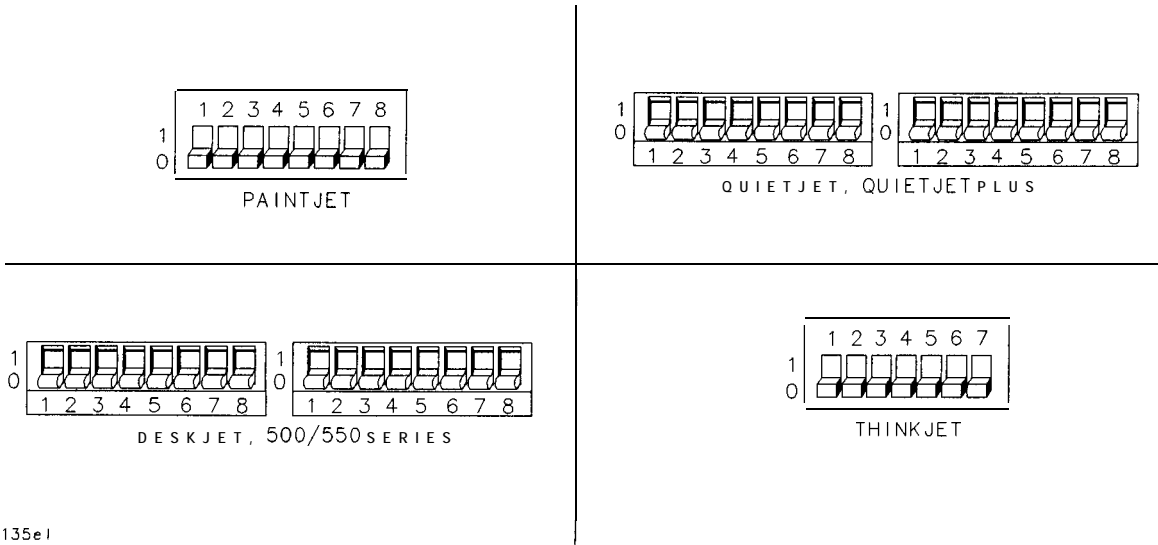

Figure 3 Parallel Printer Switch Settings
- 2 If your printer has configuration switches, now is the time to set them. See Figure 3 or refer to your printer's documentation for more specific information on your printer's configuration.